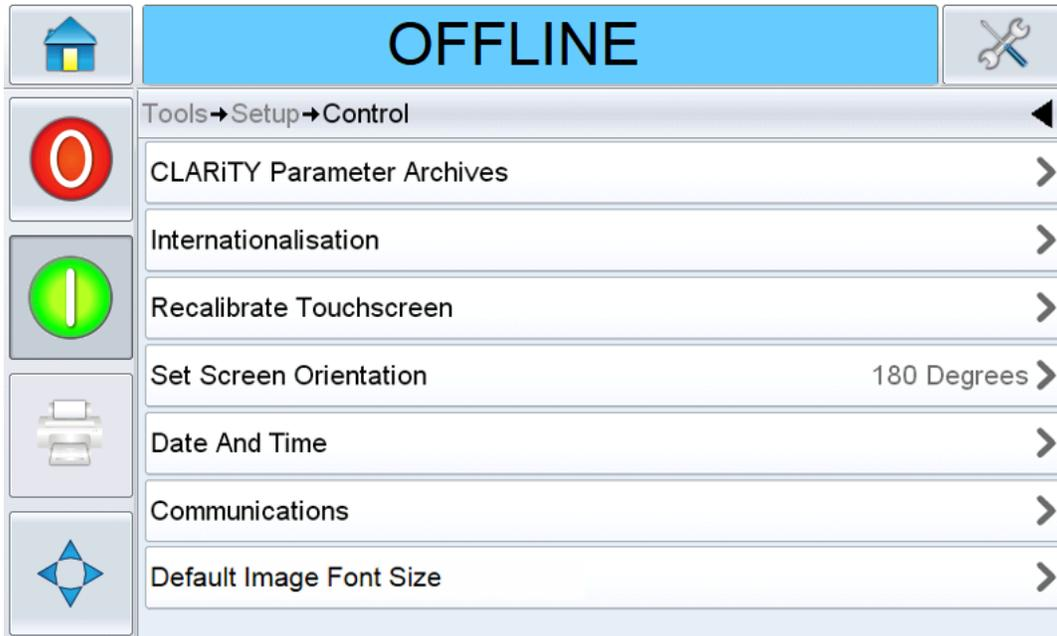

Figure 4-2: Screen Orientation
1. Navigate to *Tools > Setup > Control* as shown in Figure 4-2.